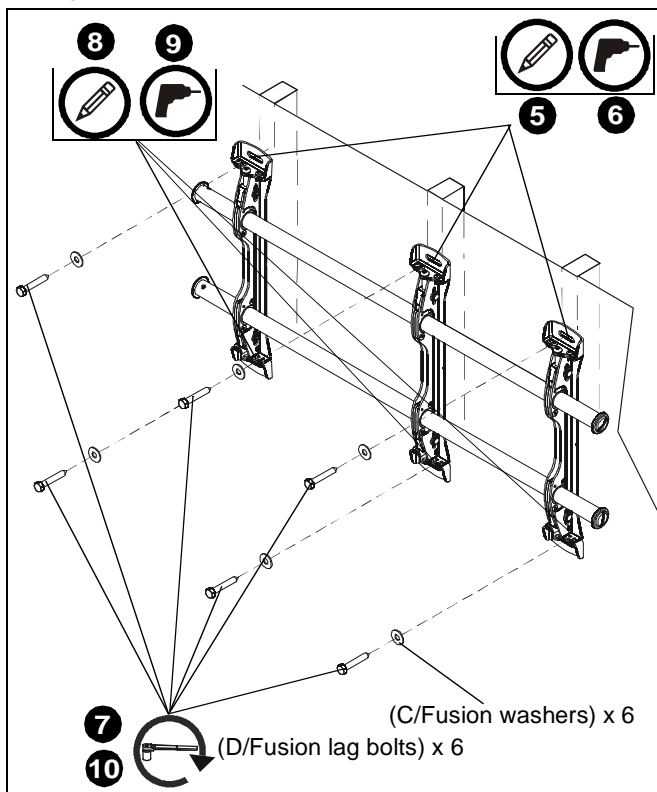

Figure 5
- Using a level, mark the wall on each stud to attach the mount through the upper mounting slots. (See Figure 5)
- Use three 5/16 x 2-1/2" lag bolts (D and lag bolts shipped with mount) and three 5/16" flat washers (C and washers shipped with mount) to attach top of mount to wall. (See Figure 5)
- Mark the attachment points for the lower mounting slots, making sure the attachment points are located on the studs. (See Figure 5)
- Drill 7/32" pilot holes at markings for lower mounting holes. (See Figure 5)
- Use three 5/16 x 2-1/2" lag bolts (D and lag bolts shipped with mount) and two 5/16" flat washers (C and washers shipped with mount) to attach the mount to the wall through the lower mounting holes. (See Figure 5)